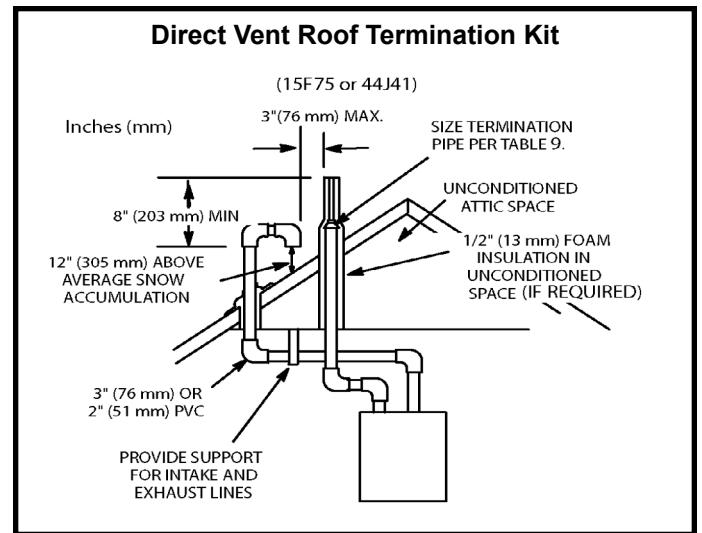

Figure 28
Intake and exhaust pipes may be routed either horizontally through an outside wall or vertically through the roof. In attic or closet installations, vertical termination through the roof is preferred. Figures 28 through 38 show typical terminations.
3. On roof terminations, the intake piping should terminate straight down using two 90° elbows (See Figure 28).